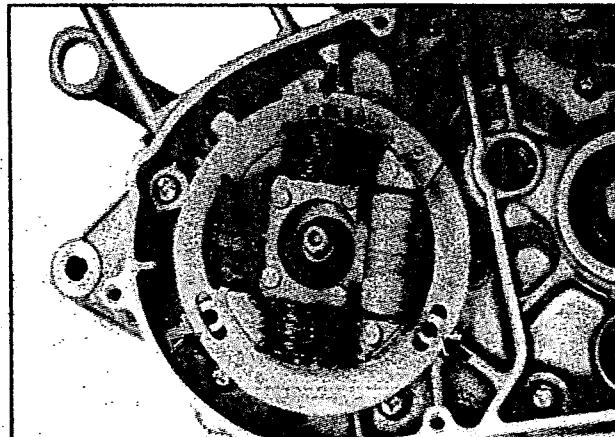
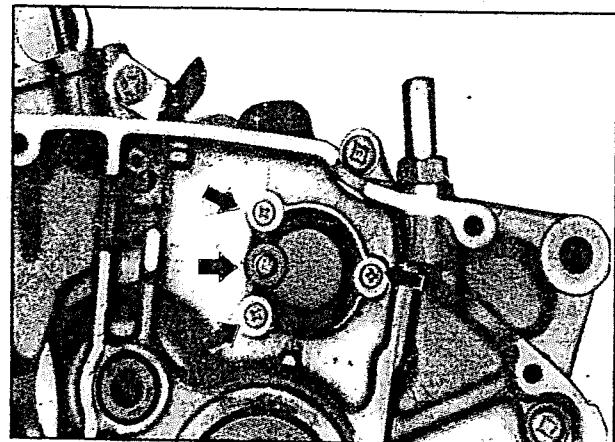
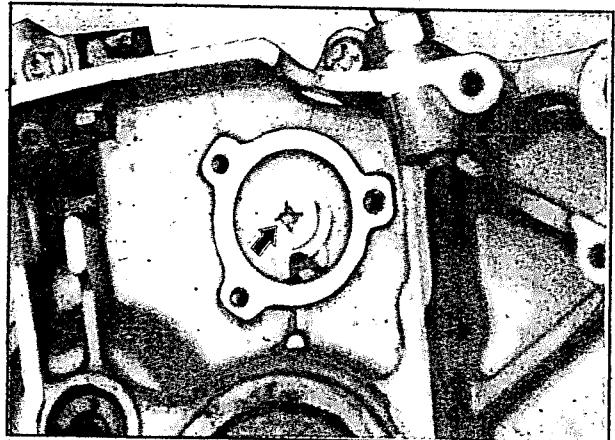

Fig 3.35
Fig 3.36
Fig 3.37
- Unscrew the stator retaining screws (3 nos) and neutral lead wire screw (fig 3.35 and fig 3.36) (applicable only to AX-100 STD, AX-100 R, AX-100 SUPRA, SUPRA POWER UP 11 BHP, SAMURAI, MAX 100 R and SHOGUN)
- Remove the neutral switch cover screws (3 nos) (fig 3.36) and switch contact screw (fig 3.37) (applicable to AX-100 STD, AX-100 R and AX-100 SUPRA, SUPRA POWER UP 11 BHP, MAX 100 R, SAMURAI and SHOGUN)